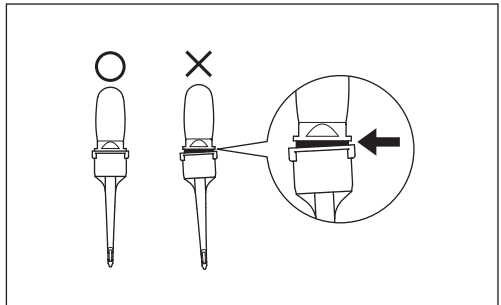

Fig. 28
- Be sure to attach the Nozzle Tip securely and firmly as illustrated (Fig. 28). If the Tip is attached incorrectly, it will fall off and may be accidentally ingested by the patient.